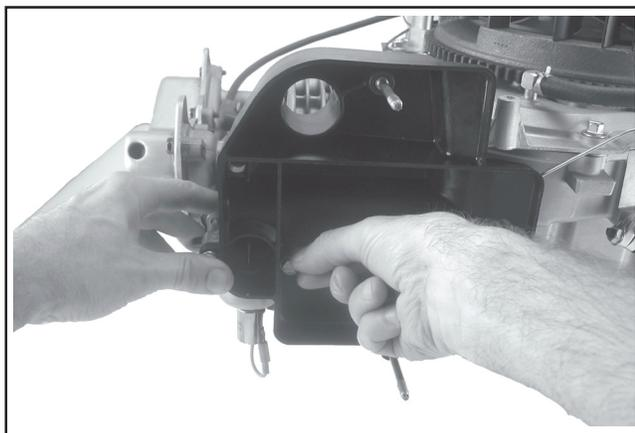

Figure 10-61. Installing Mounting Screw. (Models with one stud and one screw).
- b. **Models with one screw and one mounting stud only:** Apply hand pressure to keep the parts from shifting, then carefully remove the alignment pin and install DRY the long M6 thread forming screw – DO NOT OIL. See Figure 10-61. Check to make sure all gaskets are still in proper position.